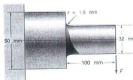

Figure 3
- Q6. The cantilever rod shown in *Figure 3* carries a downward load F that varies from 2000 to 4000 N. The rod has a machined surface finish everywhere except the shoulder area, where a grinding operation has been performed to improve the fatigue resistance of the rod. Using a 98.5% probability of survival and the Goodman line, the Soderberg line and the Gerber line, determine the safety factor for infinite life if the rod is made from annealed AISI 1040 steel. Take a size factor of 0.85 and no thermal or miscellaneous effects. [25]